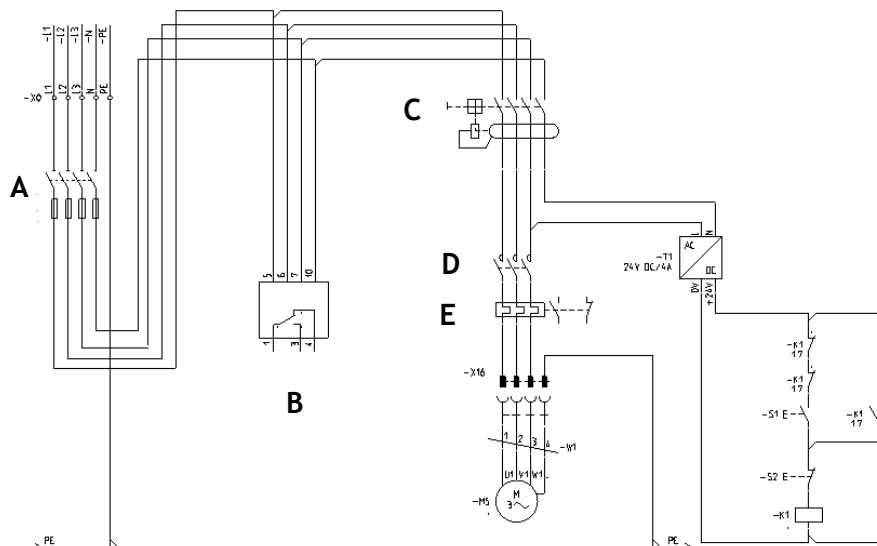

Figure 3
7. [2] The main functions of switch gear devices include control, protection and isolation of electrical installations and equipment. Consider the electrical circuit presented in Figure 3, used for on/off control of an induction motor. Identify and classify the components A, B, C, D and E.